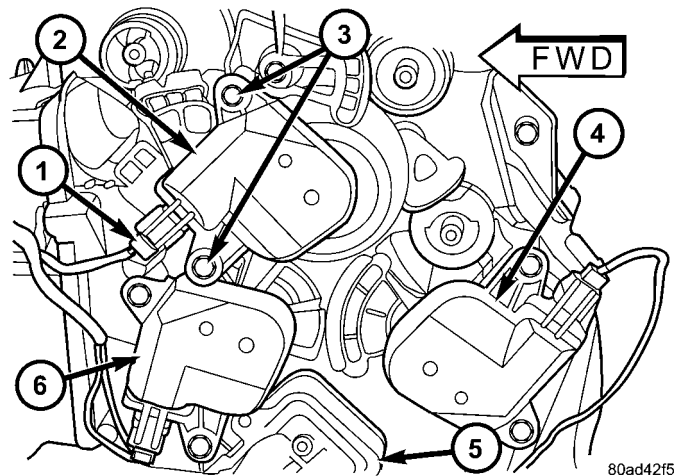

Fig. 24 Mode Door Actuator
(1) Disconnect and isolate the negative battery cable.
(2) Remove the silencer from beneath the driver side end of the instrument panel. (Refer to 23 - BODY/INSTRUMENT PANEL/INSTRUMENT PANEL SILENCER - REMOVAL).
(3) Disconnect the wire harness connector from the mode door actuator (Fig. 24).
(4) Remove the two screws that secure the mode door actuator to the HVAC air distribution housing and remove the actuator.